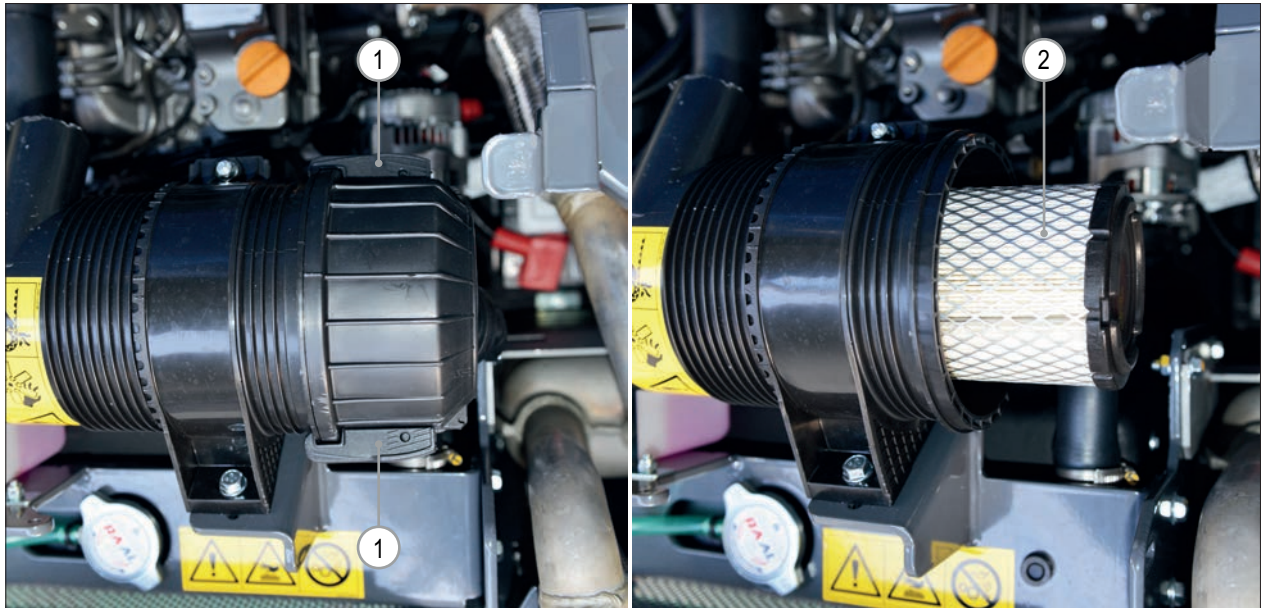

FIG. 61
- 4) Unhook the retaining clips and remove the end cap (FIG. 61 - Ref. 1).
- 5) Check the air cleaner element (FIG. 61 - Ref. 2), if cleaning is needed do it with low pressure air jets or replace with new genuine spare part.